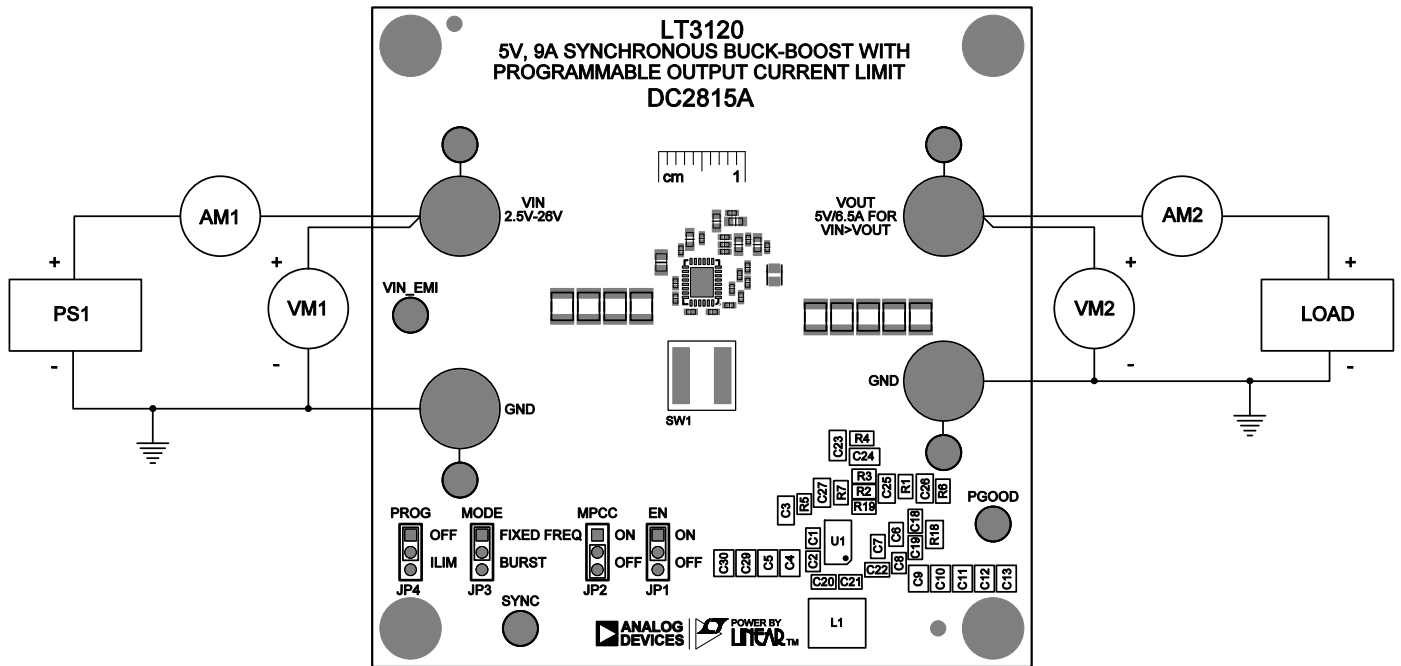

Figure 1. Test Procedure Setup Drawing for DC2815A
Using short twisted pair leads for any power connections and with all loads and power supplies off, refer to Figure 1 for the proper measurement and equipment setup. The Power Supply (PS1) should not be connected to the circuit until told to do so in the procedure below.
2. With power OFF connect the power supply (PS1) as shown in Figure 1. If accurate current measurements are desired (for efficiency calculations for example) connect an ammeter in series with the supply as shown. The ammeter is not required however.
5. Connect a 5A load to VOUT as shown in Figure 1 (1Ω for VOUT = 5V). Connect an ammeter if accurate current measurement or monitoring is desired.